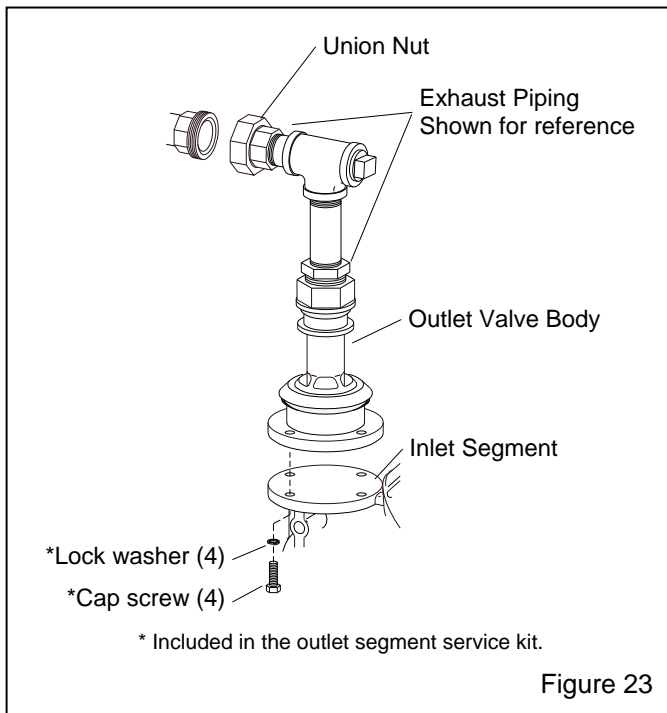

Figure 23
**6.4.2** Loosen the exhaust piping union nut as shown in Figure 23.